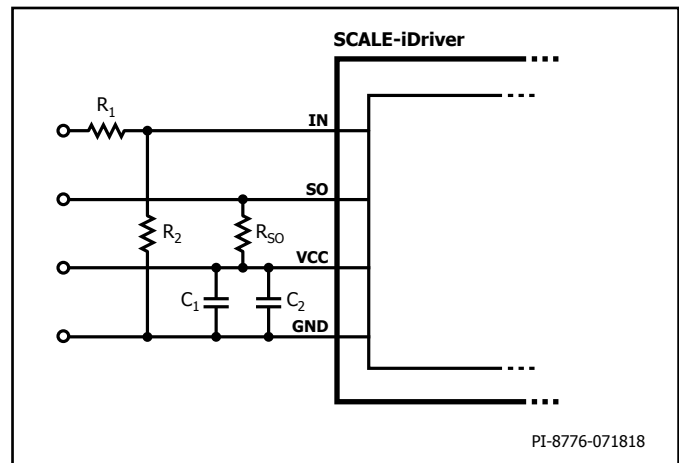
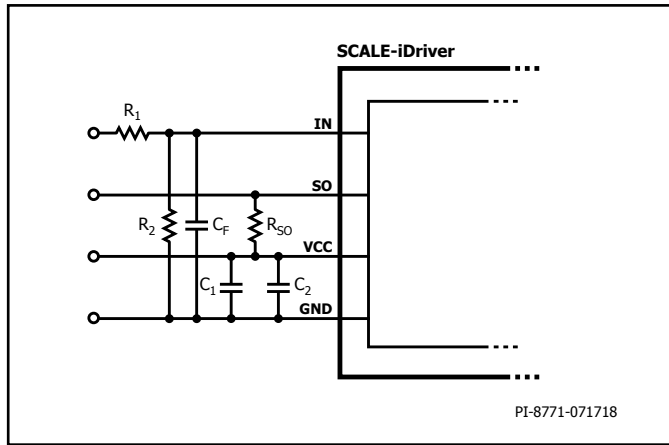

Figure 6. Recommended Circuitry for Increased IN Logic Levels. For $R_1 = 3.3 \text{ k}\Omega$ and $R_2 = 1.2 \text{ k}\Omega$ the IN Logic Level is 15 V.
Figure 7. Primary-Side of Example Circuitry.
If the physical distance between the controller and the SCALE-iDriver is large a line driver is recommended or increase the logic level to 15 V. For 15 V logic level, the resistive divider in Figure 6 is recommended. This solution adjusts the logic level as necessary and will also improve driver's noise immunity.
For the input the circuitry of Figure 6 is recommended, when using 15 V input logic. R_1 and R_2 represent a voltage divider to get a 5 V signal at the IN pin. If additional filtering is required a capacitor C_F can be placed in parallel to R_2 as depicted in Figure 7. The time constant τ can be calculated by Equation (1). In case direct 5 V logic is used at the IN pin, R_2 is recommended at any case and R_1 can be reduced to 100 Ω .